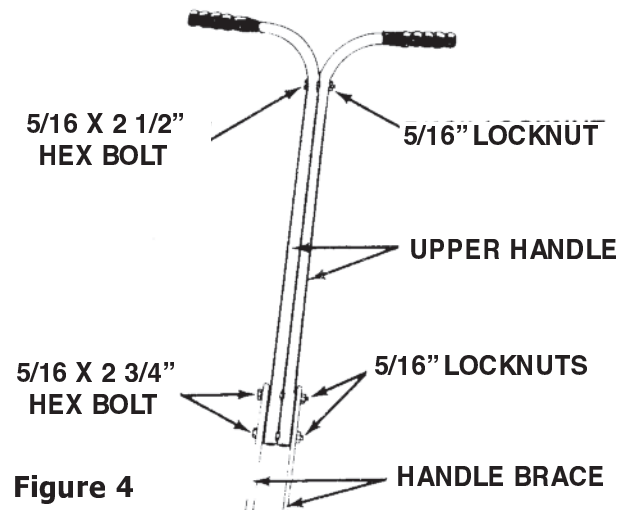

Figure 4
4. Attach the two upper handles to the handle braces with two 5/16-18 x 2 3/4 inch bolts as shown in figure 4. Hand tighten the nuts.